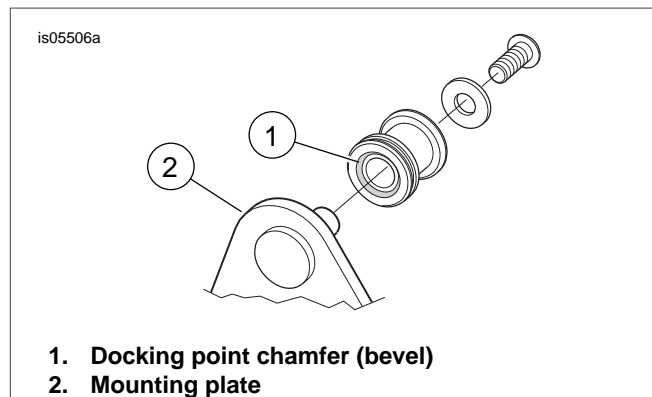

Figure 1. Docking Point Installation
See Figure 1. The docking points must be attached to the docking plates (2) with the chamfer (1) facing the plate and the flat side facing out.